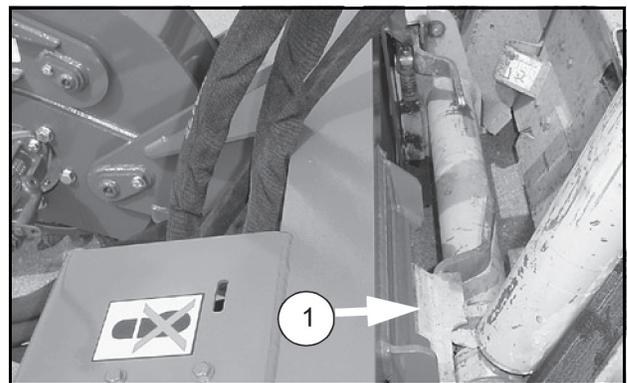

Figure 2.
5. Continue to pull forward until the skid steer attach makes contact with the attachment as shown in Figure 2.
6. Raise skid steer arms until the top of the skid steer attach contacts both the top latch bars (1) on the attachment.